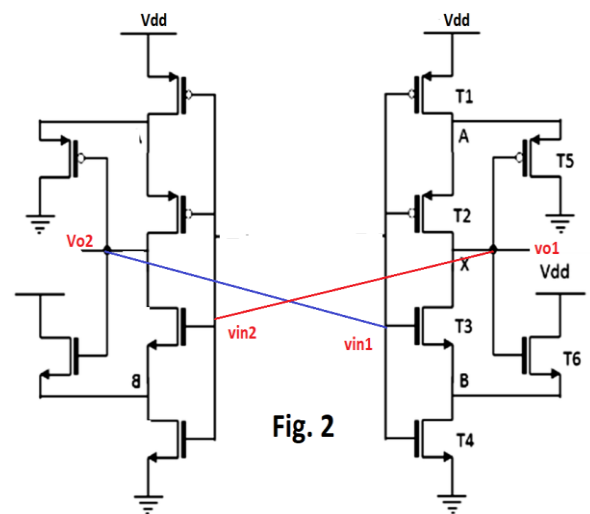

Fig. 2
- Re-estimate MTBF of BLK-2 If clk has a positive skew of 100 pS in Fig. 2, (in years).
- Re-estimate MTBF of BLK-2 , If only first two stages of Blk-2 are operated with frequency of Blk-1 in Fig. 2 (in years).
- In part (a) , the bistable element of each stage is replaced by cross coupled Schmitt trigger circuit. (Fig. 2) . It has upper threshold = 1V and lower threshold = 0.5V . $\tau = 5nS$. Re-estimate MTBF (in years).